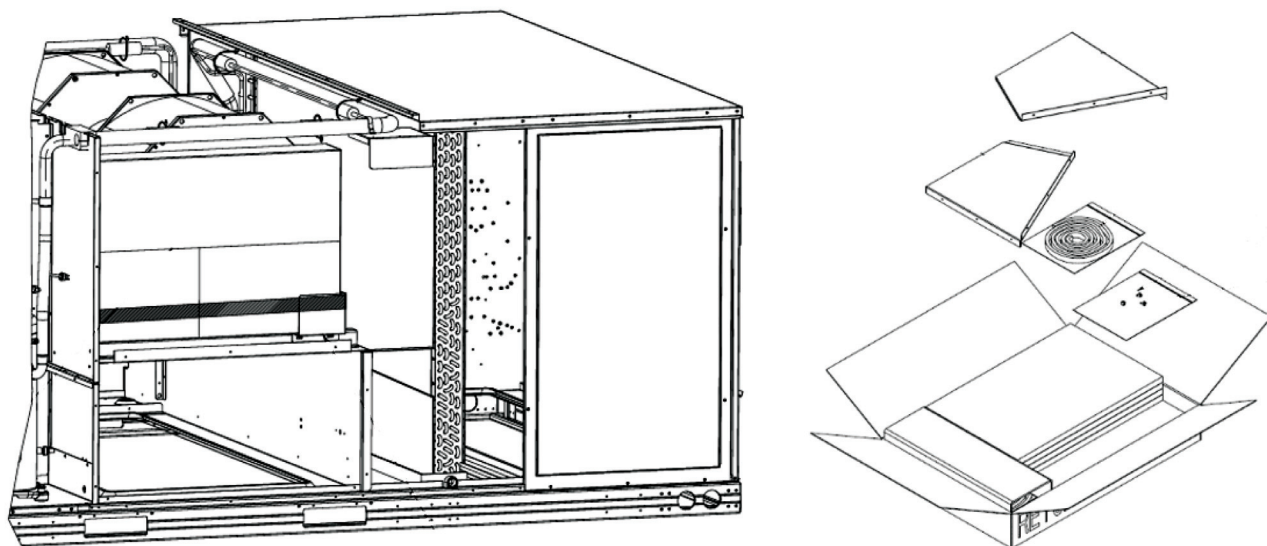

Fig. 15 — Barometric Hood Box Parts Location
2. Remove the side panels located in the hood parts box (see Fig. 15).